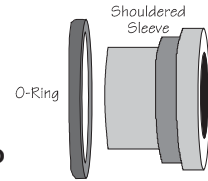

figure 1
1. Shouldered sleeves with O-rings should already be installed in the shock eye. If not, insert sleeves with O-rings in the top eye (see figure 1).